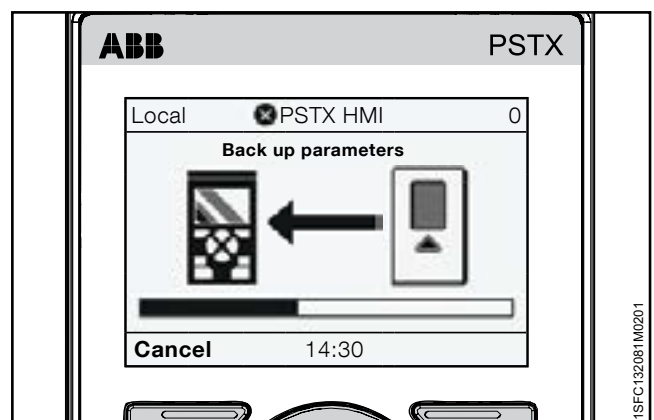

Figure 6.31
3. The download of parameters shows as in **Figure 6.31**. The name of the backup file shows as the day, month and year it was created.